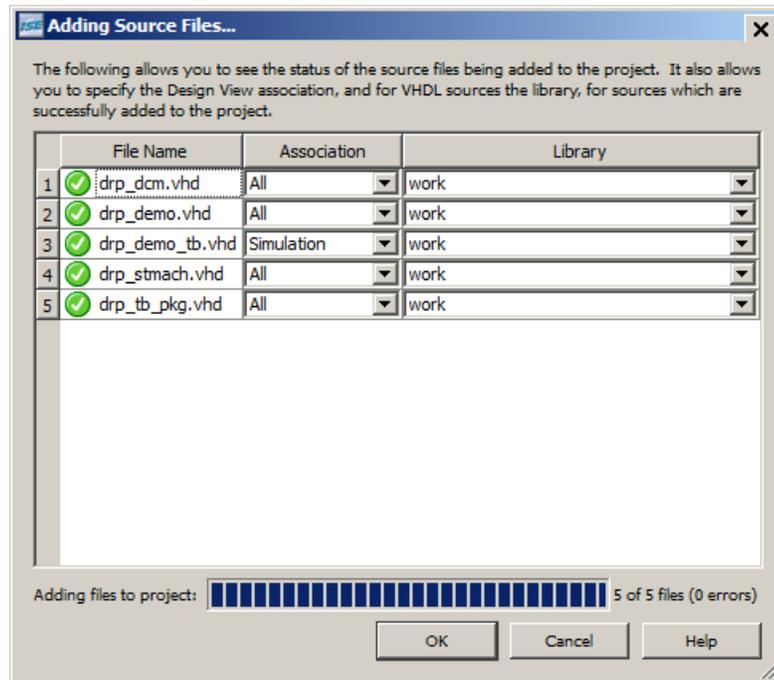

Figure 2-2: Status of Source Files and Associations
3. In the next window, make sure that the association and libraries have been properly specified for the tutorial sources. Compare your settings with those in Figure 2-2.